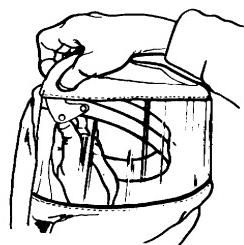

Figure 4
4. Engage four headband suspension snaps into corresponding snap studs mounted in plastic lens (see Figure 4).